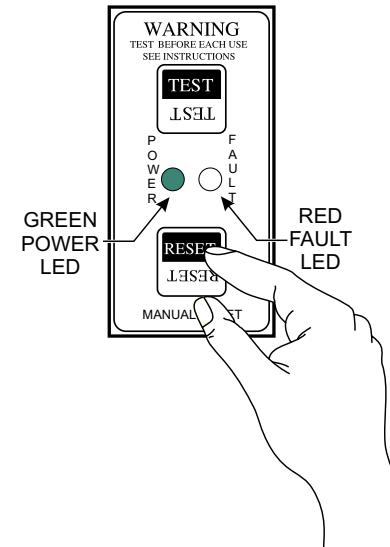

Figure 56. G GFCI Sensing Module (Green LED ON Reset)
9. To restore power, press the **RESET** button (Figure 56) on the GFCI module and verify that the **red** FAULT LED turns **OFF** and the **green** POWER LED should turn **ON**.